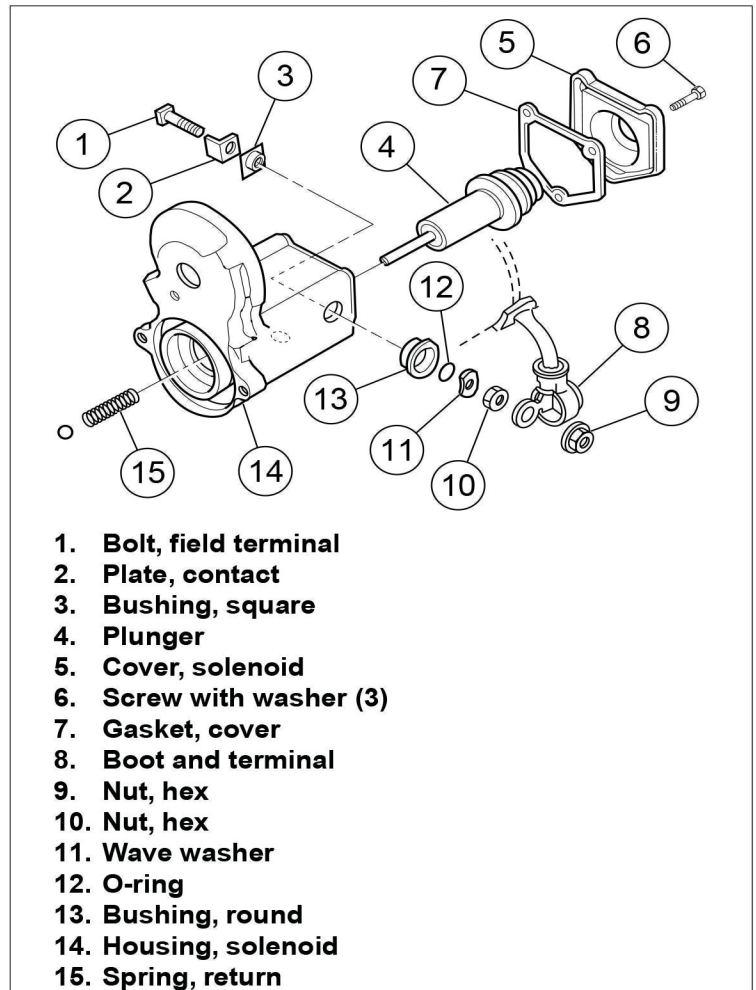

Figure 1. Solenoid Plunger and Field Terminal
1. See Figure 1. Remove boot (8) from copper field terminal bolt (1).
2. Remove hex nut (9) holding field wire terminal to bolt.
3. Remove three solenoid cover screws with washers (6), cover (5) and gasket (7). Discard gasket.
4. Remove plunger (4) and return spring (15) from housing (14). Discard plunger.
6. Remove and discard field terminal nut (10), wave washer (11), O-ring (12) and round bushing (13).
7. Push copper bolt (1), contact plate (2) and bushing (3) out of solenoid housing. Discard bolt, contact plate and bushing but save solenoid housing for later use.